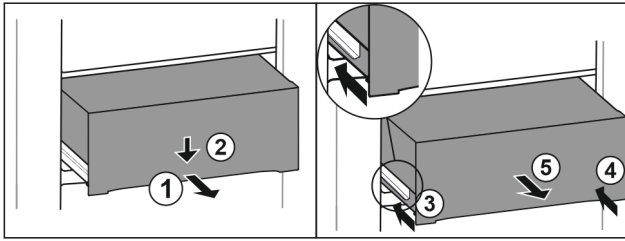

Fig. 107
- ▶ Pull out drawer half-way. Fig. 107 (1)
- ▶ Push the drawer down at the front. Fig. 107 (2)
- ▶ Push the left rail in by about 2 cm. Fig. 107 (3)
- ▶ Push the right rail in by about 2 cm. Fig. 107 (4)
- ▶ Remove drawer to the front. Fig. 107 (5)